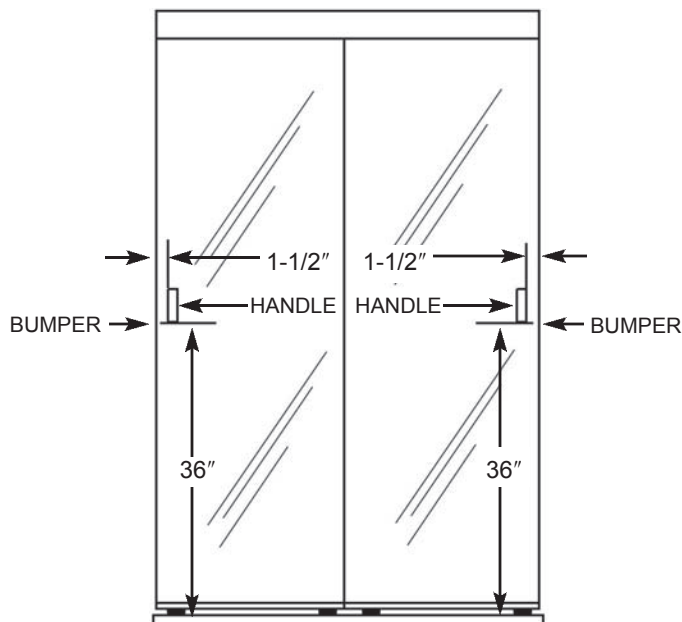

Figure 5
Peel paper off the back of the Clear Plastic Bumpers (#8) and place on the edge of the Panel frame 36" up from the bottom. The Clear Plastic Bumpers (#8) will cushion and protect the door and wall when you close the wardrobe doors (See Figure 5).
- A. Clean mirror in the area where the Mirror Handles (#7) will be applied. Peel paper off the back of the Mirror Handles (#7). Position each Mirror Handle (#7) 36" from the bottom of the Panel (#1) and 1-1/2" from Side Mold (#11) on each Panel (#1) (See Figure 5).